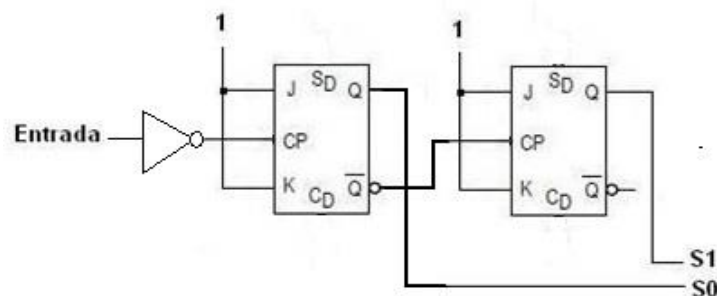

Figure 2.
a) Figure 2 shows a 2-bits upward asynchronous counter composed of two JK flip-flops and an inverter. Implement this circuit in Logisim and use a Hex Digit Displays to see the count.
Implement a double counter (main circuit) composed of two subcircuits C1 (2-bits upward asynchronous counter) and C2 (2-bits downward asynchronous counter). In order to synchronize both counters (simultaneous changes), it is **NECESSARY** to remove the inverter of Figure 2. The initial counts must be 00 for C1 and 10 for C2. When $C1=C2$ a yellow LED must be illuminated.